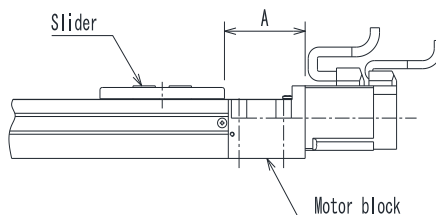

Fig. 6.7-3
- (4) Temporarily connect the actuator and controller, connect the teach pendant with the controller, then turn the power on. For how to connect, see Para. 2.5.4 of the instruction manual (basic) provided separately.
- (5) Set the servo gain values (position and speed) of Parameter 1 to zero (0). For the setting procedures, see Para. 13.3.3,13.3.4 of the instruction manual (basic).
- (6) Specify "3" for the home return method of Parameter 2.
- (7) Execute the home return. After the motor has stopped, move the slider end manually to the position "A" mm away from the motor block end surface. (See Fig. 6.7-3.)
- (9) Turn the power on again, return the servo gain values (position and speed) to the previous values, then specify "2" for the home return method of Parameter 2.
- (10) After the power is turned off, then on again, execute the home return and make sure that the actuator is as shown in Fig. 6.7-3.
- (11) Reassemble the stainless sheet in Step (3) above as originally set. The stainless sheet should be stretched straight not to cause a sag.